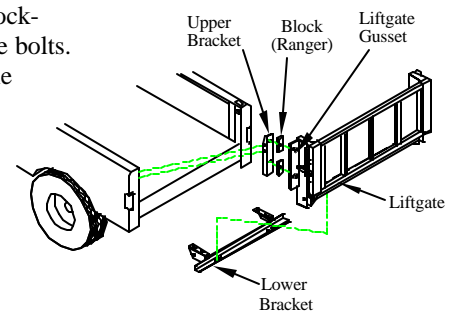

Figure 8 : Liftgate mounting on pickup.
Step 6: **Bolt** the lower bracket tightly to the liftgate with two (2) 1/2 x 3/4" bolts and two (2) lock-washers (**Figure 8**). There are nuts welded to the inside of the mainframe to accept the bolts.
Step 9: **Fasten** each upper bracket to the liftgate gussets using four (4) 1/2" x 1-1/4" bolts and four (4) lockwashers, supplied (**Figure 8**). Leave the bolts slightly loose.
NOTE: 1998 and newer Rangers require four (4) blocks to be sandwiched between the liftgate gussets and upper brackets (**Figure 8**).